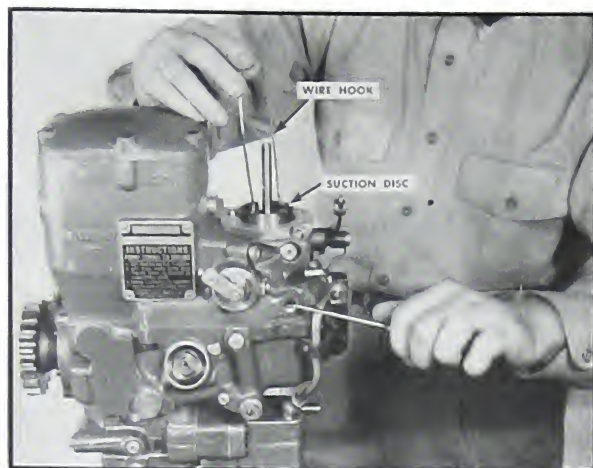
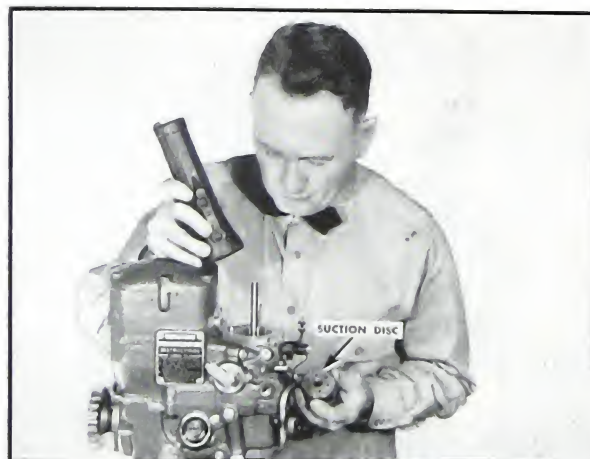

Fig. 5-180. Removing suction disc
Fig. 5-181. Inspection of disc and plate
1. The suction disc and plate can be inspected without removing the upper housing. Fig. 5-181. A two-pronged wire hook like that shown in Fig. 5-180 is handy to lift the suction disc out of the distributor housing.
2. If the disc is hard to lift out, remove the pipe plug and pry the disc up with a small screw driver. Fig. 5-180.
GOVERNOR HOUSING COVER: The governor housing contains either the maximum-speed or variable-speed mechanical governor and control units. To gain access to the governor unit: Remove the six $\frac{1}{4}$ " screws and lift off the governor housing cover. Fig. 5-181.
1. Lift off the suction disc if not previously removed. Fig. 5-181.